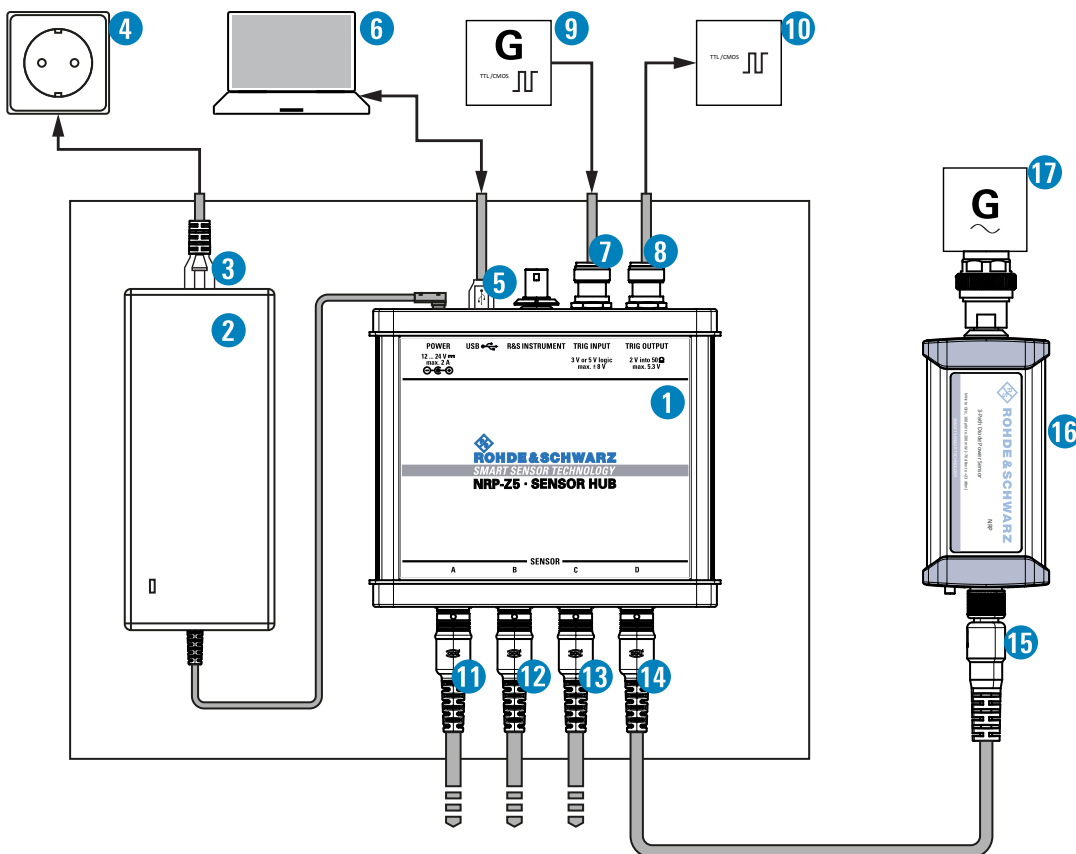

Figure 4-2: Setup with an R&S NRP-Z5 sensor hub
1. Connect the cables as shown in Figure 4-2: